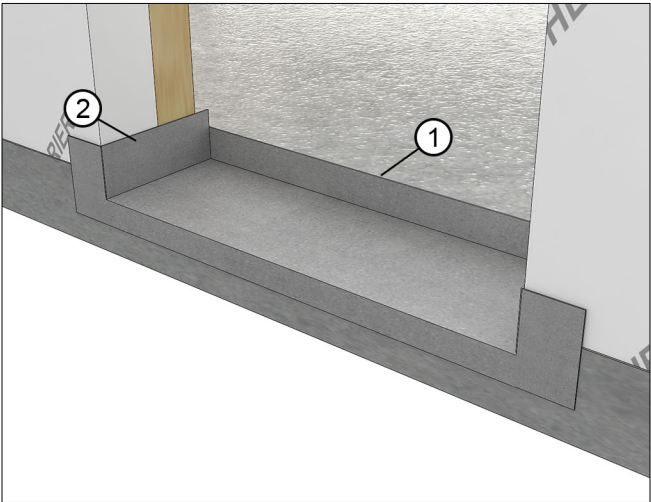

Figure 10 Stacked Panning for Performance or Flush sill shown.
- 3. All pannings for stacked configurations must have an end dam as high as the rear sill liner and sides that come up at least 4"(102). See Figure 10.